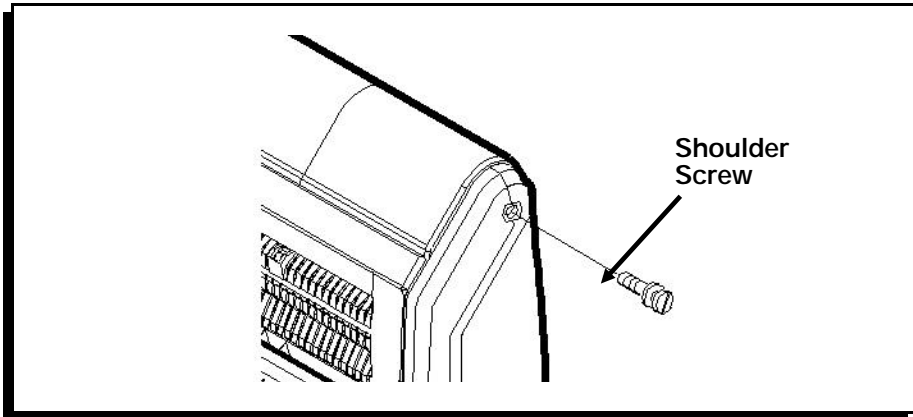

Figure 17
1. Insert two M3.5 washers and two 10mm shoulder screws into the sides of the printer as shown and tighten with a screwdriver. (Figure 17.)